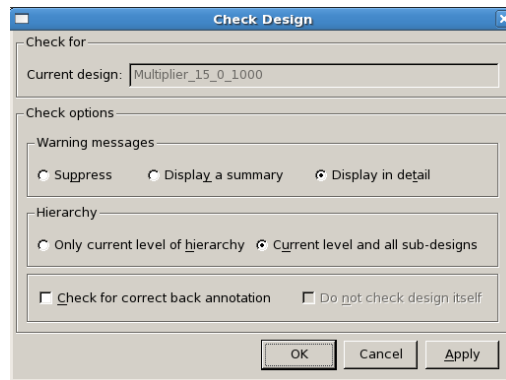

Figure 16: Check Design Box
- Select Design->Check Design, and set the choice as shown in Figure.16;